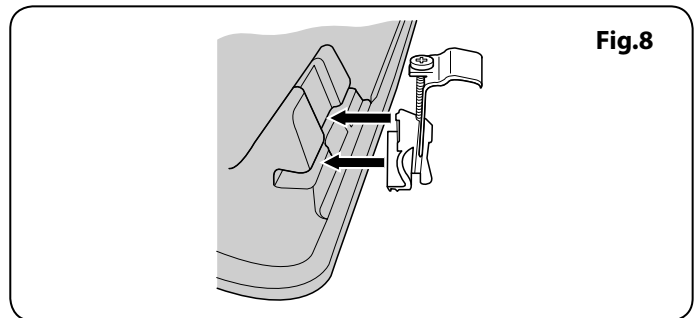

Fig.8
1. Locate the clamps then give a gentle tap to secure in the slot (**Fig.8**).